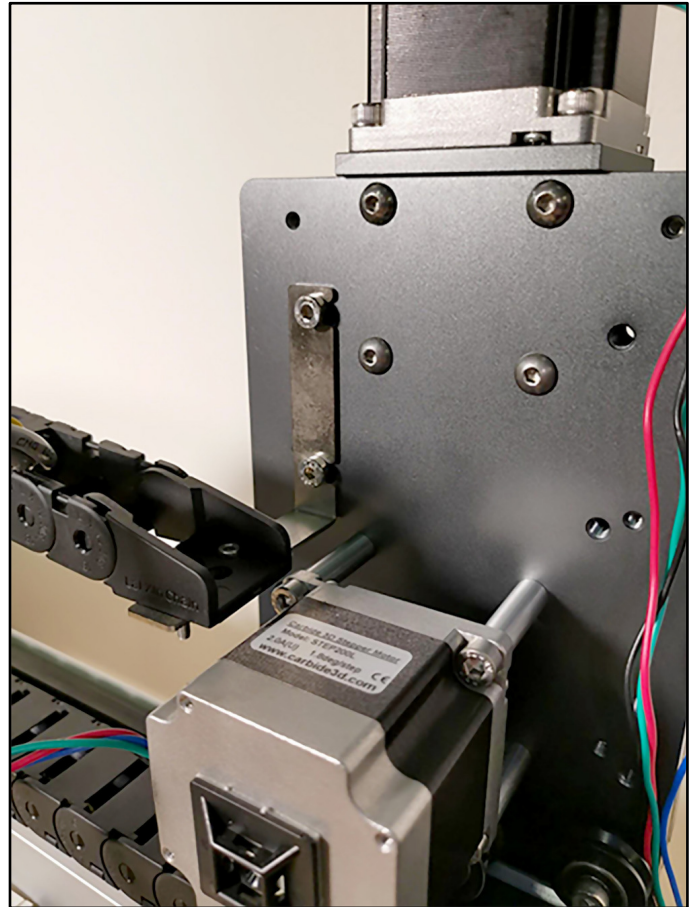

Figure 14
1. Install the drag chain bracket using your two (2) existing M5 x10mm bracket screws. See **Figure 14**.